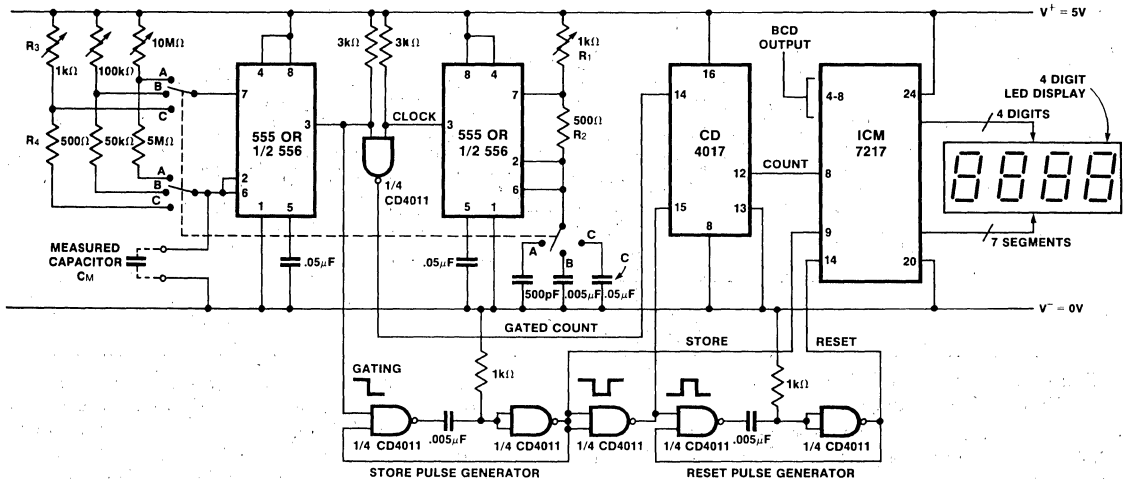

Figure 13: Capacitance Meter
8. INEXPENSIVE CAPACITANCE METER (Figure 13)